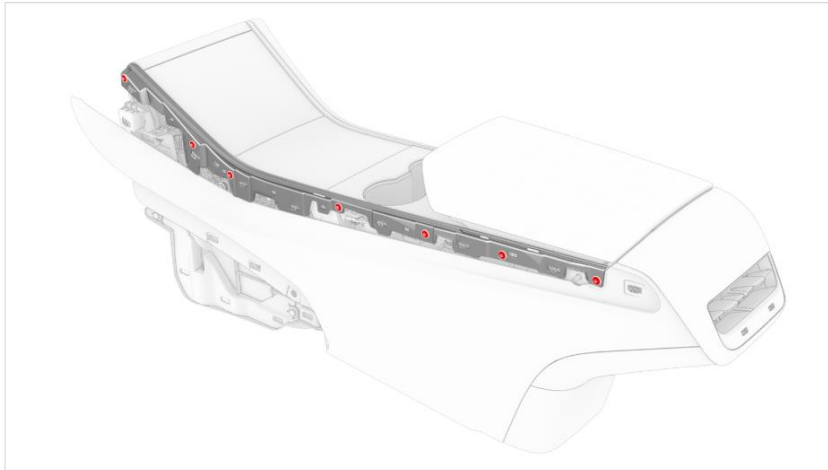

Figure 3 – LH side shown; RH side similar
3. On both sides of the center console, remove the screws (x7) (Figure 3) and release the tabs that attach the bracket to the center console. Remove both brackets from the center console.
- On both sides of the center console, install the screws (x7) (Figure 3) and engage the tabs that attach the bracket to the center console. Tighten the screws to 1.6 Nm (1.18 ft-lbs).